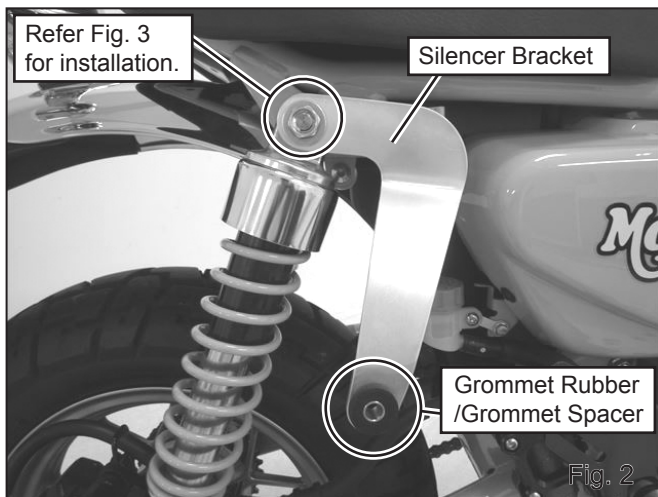

Fig. 2
- 3) Attach Grommet Rubber and Grommet Spacer to Silencer Bracket (See Fig. 2). Then, Remove stock nut and washers on RH upper rear suspension mount, and attach Silencer Bracket with U-Nut M10 and stock washer (See Fig. 2 & 3). Tighten the nut by hand only at this stage.